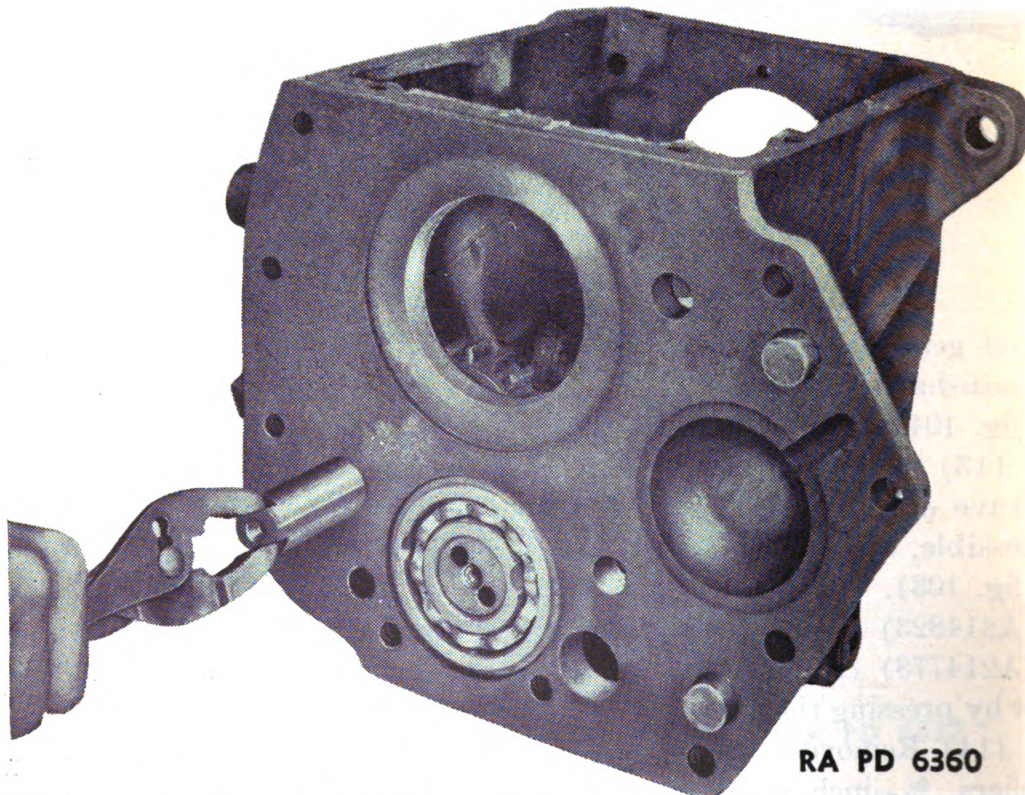

FIGURE 103.—Transmission reverse idler gear shaft removal.
(13) Remove reverse idler gear—brass drift, hammer, pliers. Drive on inner end of reverse idler gear shaft (B184284) as far as possible, and then remove by pulling on front outer end with pliers (fig. 103). Remove reverse idler gear (B184260) and thrust washers (A214823) from case (fig. 104). Reverse idler gear bushings (A214778) can be removed from gear by driving with brass drift or by pressing them out.
(14) Remove countershaft rear bearing retainer washer—cutting pliers,  $\frac{9}{16}$ -inch socket wrench. Cut locking wire and remove two